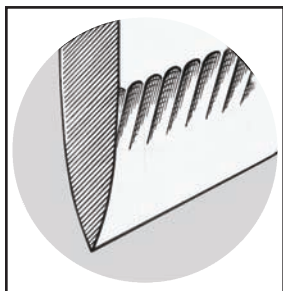

Figure 9. A larger polished facet adjacent to edge is ideal for gourmet preparations.
Where the finest and smoothest cuts are preferred in order to prepare smooth unmarked sections of fruits or vegetables, sharpen in Stage 2 (or 1 & 2 as described above) and make extra pulls thru Stage 3. Three (3) or more pairs of pulls with each pull alternating in the left and right slots of Stage 3 will refine the third facet and create remarkably smooth and sharp edges, (Figure 9) ideal for the gourmet chef.